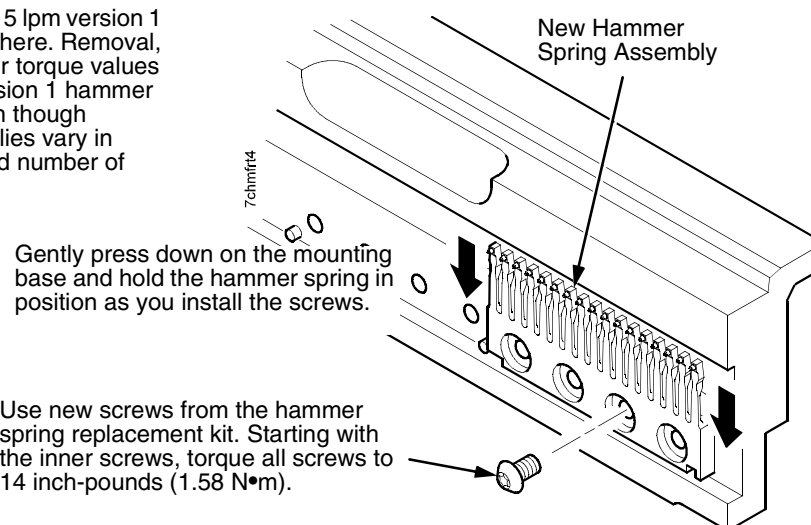

Figure 26. Hammer Spring Assembly, Installation
3. Handling the hammer spring assembly by the mounting base only, carefully position it on the hammer bank mounting pins. then gently press the mounting base down against the alignment pins. (See Figure 26, page 218.)
4. Continue pressing down on the mounting base of the new hammer spring assembly as you install the mounting screws from the replacement kit. Using a Torx T-10 bit adapter, and starting with the inner screws, torque each screw to 14 inch-pounds (1.58 N•m). (See Figure 26.)